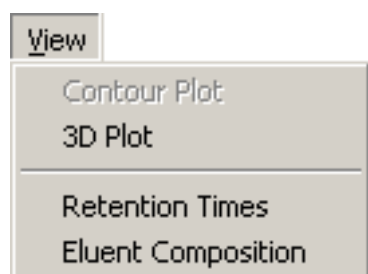
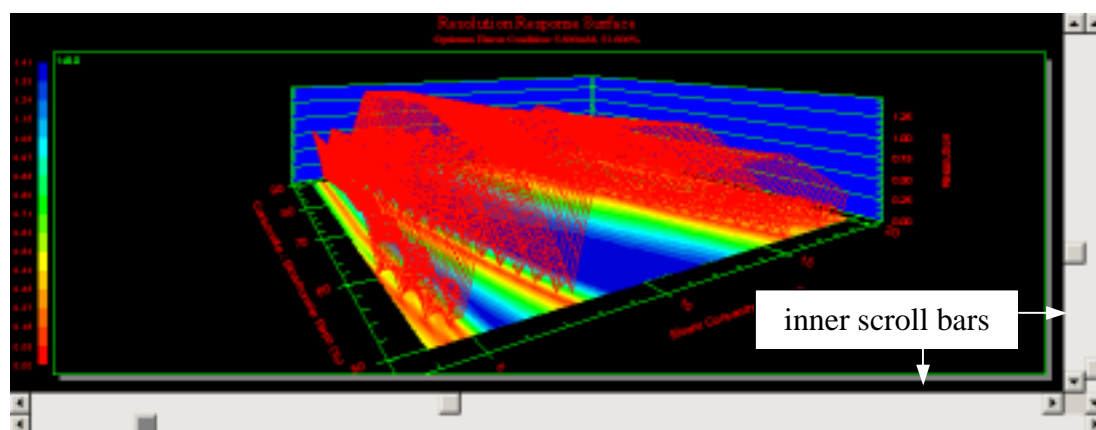
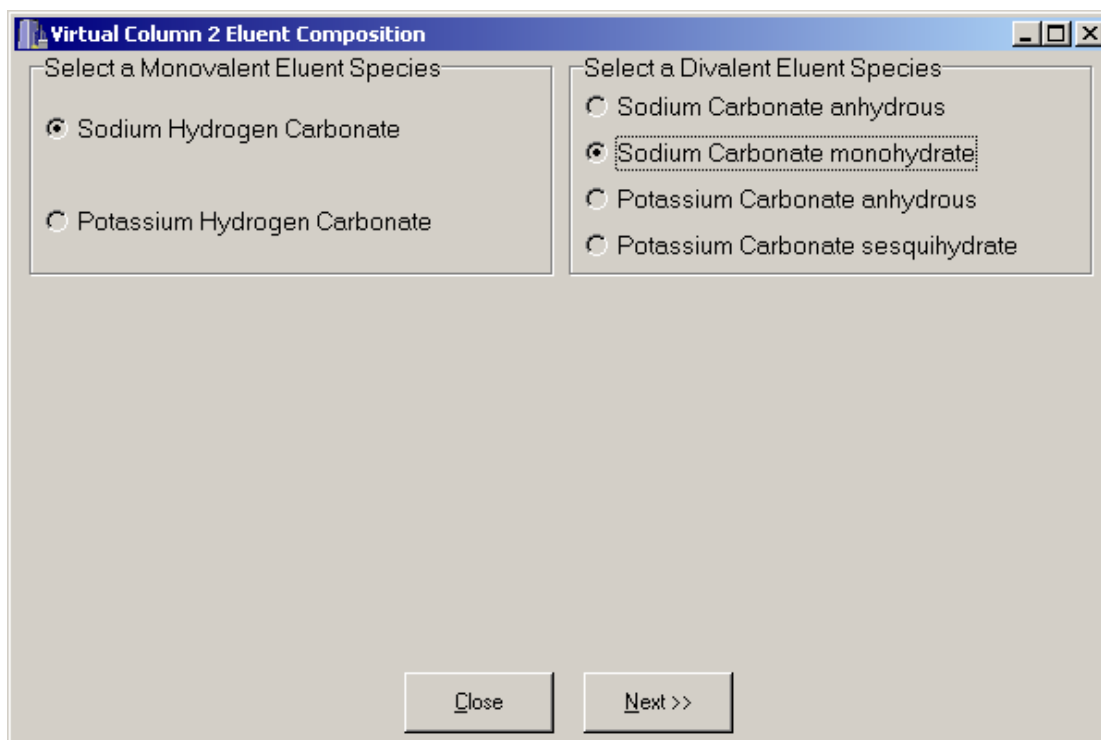

Figure 10. View menu.
Figure 11. 3D Resolution Response Surface showing inner scroll bars.
Figure 14. Virtual Column 2 Eluent Composition selection window.
- Left click on the 'View' menu (Figure 10) and click on '3D Plot'. After completing some calculations the contour plot should disappear and be replaced with a wire frame 3D plot over a contour plot. Two extra scroll bars should appear inside the existing scroll bars (Figure 11).
- Left click on the 'View' menu (Figure 10) and click on 'Retention Times'. A 'Virtual Column 2 Retention Time Results' table should be displayed (Figure 13).
- Left click on the 'View' menu (Figure 10) and click on 'Eluent Composition'. A 'Virtual Column 2 Eluent Composition' window should appear (Figure 14).